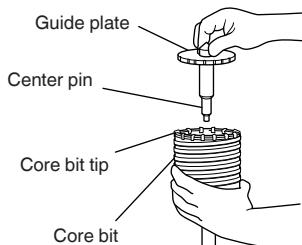

Fig. 21
- (3) Insert the center pin into the guide plate until it stops.
(4) Engage the guide plate with the core bit, and turn the guide plate to the left or the right so that it does not fall even if it faces downward (Fig. 21).